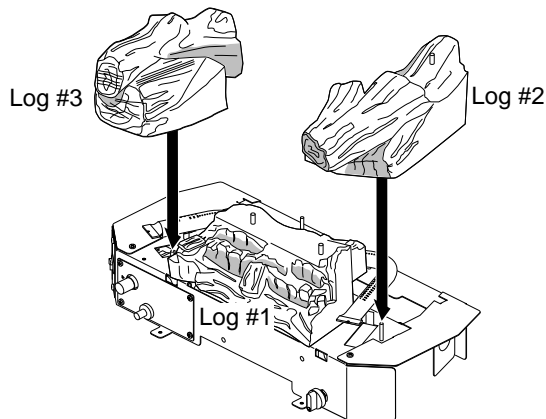

Figure 25 - Installing Log #2 (Right) and Log #3 (Left)
2. Place log #2 to right of log #1 and onto two log alignment screws as shown in Figure 25. Log #2 will wrap around right end of rear burner (see Figure 25).
3. Place log #3 on left side of base and over alignment screw shown in Figure 25 to left of rear burner. Log #3 will wrap around left end of rear burner.